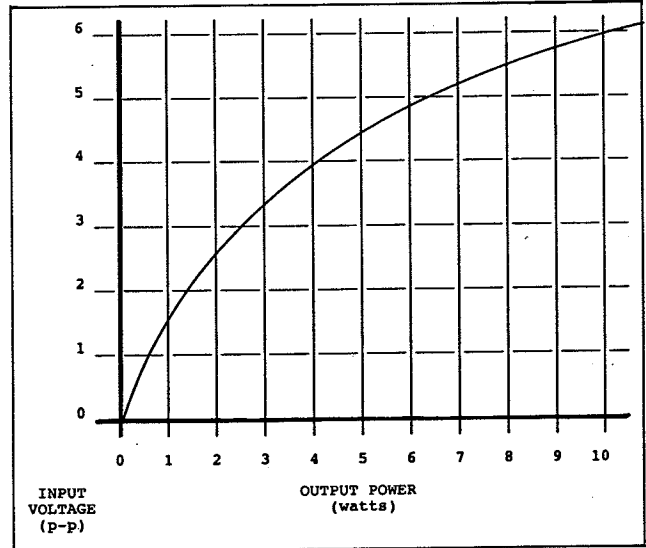

Figure 7-2. Input voltage vs output power, RFL 67P PLC AMP Power Amplifier Module
**Input/Output Levels:** See Figure 7-2.